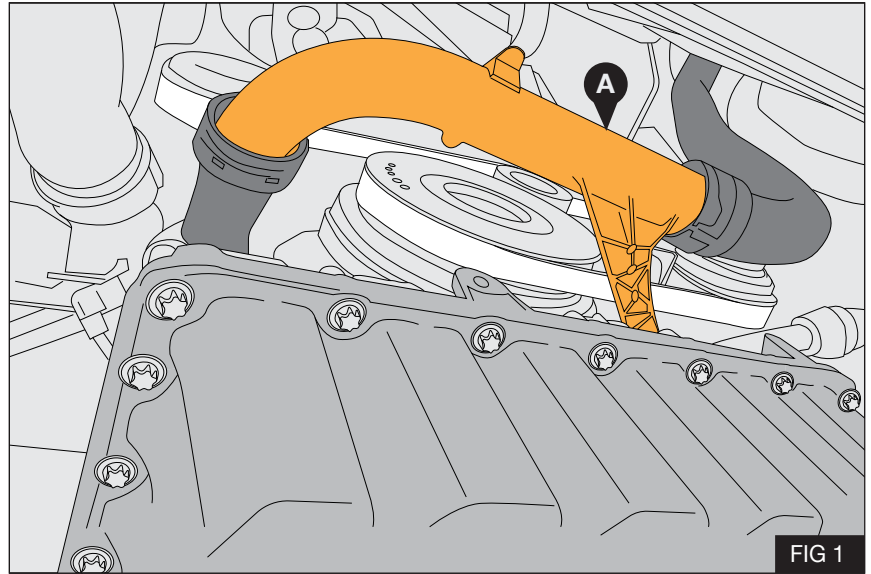

FIG 1
**Note:** For removing the crankshaft pulley, it may be easier to drain the vehicle coolant and remove pipe (A) - Fig 1